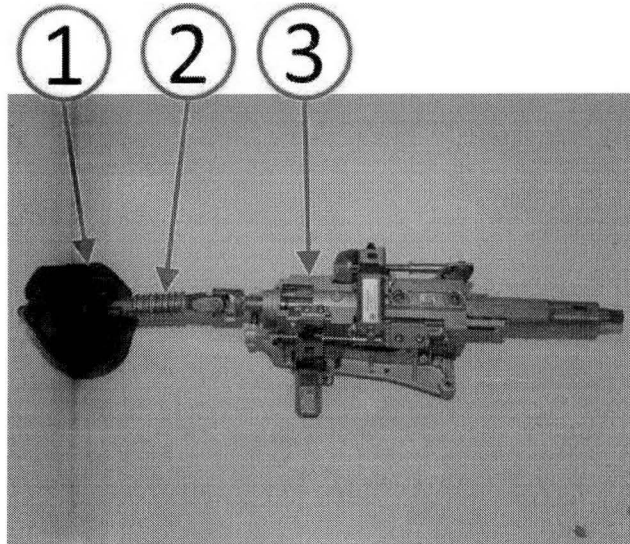

Fig. 1 Steering Column Assembly
1. Remove the steering column assembly (1, 2, 3) from the vehicle. Discard the intermediate shaft pinch bolt **and the steering wheel mounting bolt.** Refer to the detailed service procedures available in DealerCONNECT> TechCONNECT under: Service Info> 19 - Steering> Column> Removal (Fig. 1).